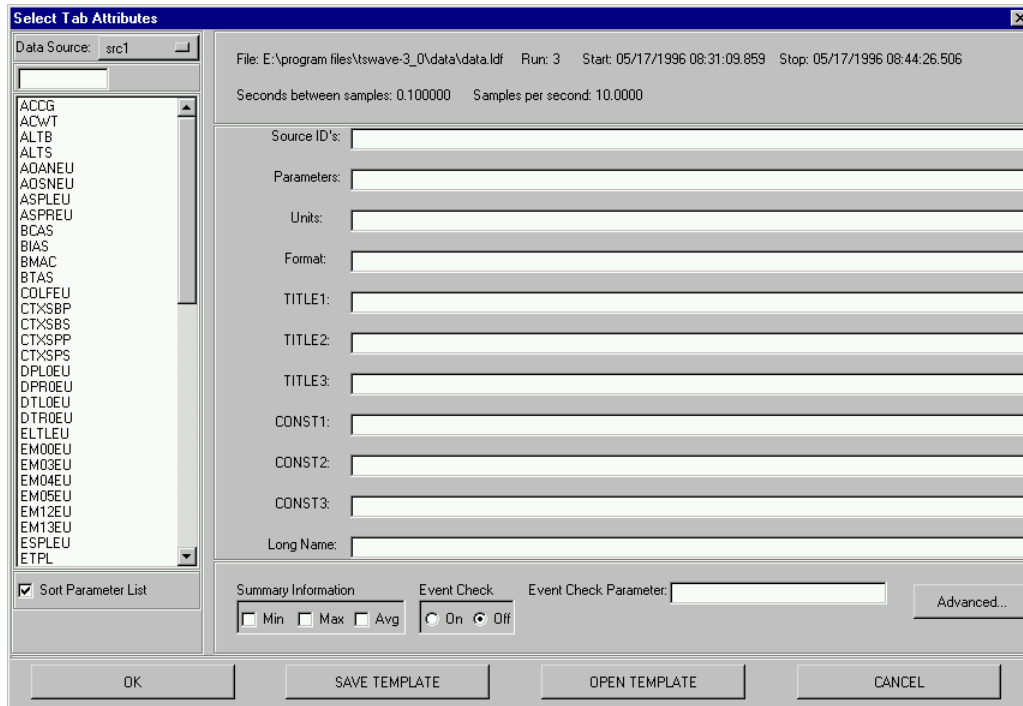

Figure 1-14 The Select Tab Attributes dialog box lets you specify the parameters and other information to write to a tabular data file.
Step 3 In the Select Source list, select **src1**. Notice the Start and Stop time of the Data Source is displayed. Click **OK**. This brings up the Select Tab Attributes dialog box as shown in Figure 1-14